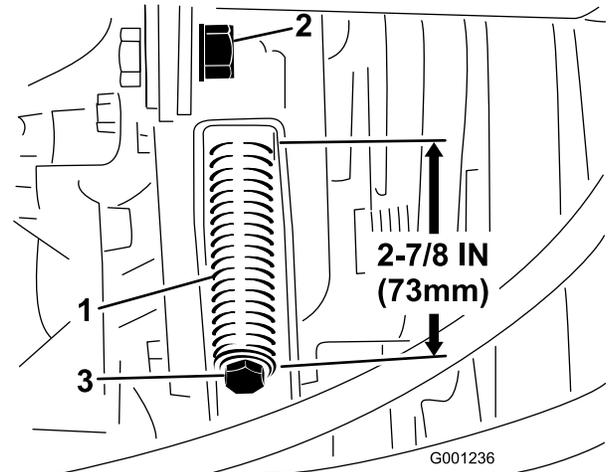

Figure 75
3. Loosen the tensioning-rod jam nut (Figure 75).
4. Use a 1/2-inch wrench to tighten or loosen the belt-tensioning spring (Figure 75). Adjust spring to a length of 273 mm (7/8 inch).
4. Using a 1/2-inch wrench, loosen the belt-tensioning spring (Figure 75) all the way.
6. Install the new PTO belt and tension the pulley spring to 73 mm (2-7/8 inches) in length (Figure 75).
7. Tighten the jam nut (Figure 75) and close the hood.